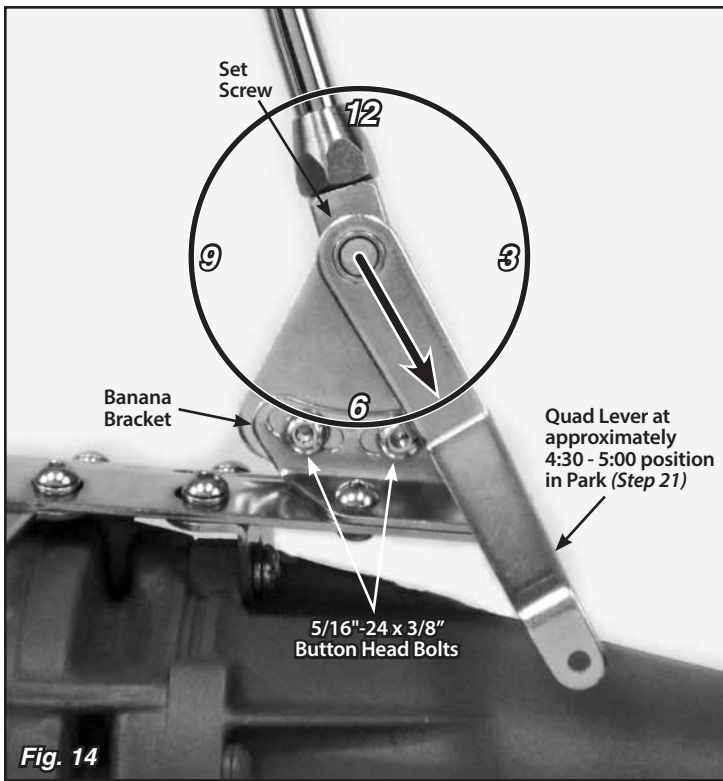

Fig. 14
**Step 20:** Make sure the two 5/16"-24 x 3/8" button head bolts that attach the left side banana bracket to the shifter assembly (in the curved, slotted holes) are tight. Before tightening the shifter assembly down to the main plate, move the shifter lever through all the gear positions. Make sure that the shifter lever and knob do not come in contact with the dash or the seat. The shifter assembly can be tilted forward or backward if needed by loosening the 5/16"-24 x 3/8" button head bolts in the curved, slotted holes in the left side banana bracket. **Fig. 14**
**Step 21:** Put the shifter lever into the Park position and check the position of the quad lever. It will need to be pointing to approximately the 4:30 - 5:00 position. If it is not, loosen the set screw in the top of the quad lever with a 1/8" Allen wrench and slide the quad lever off of the shaft. Reposition it on the shaft at approximately the 4:30 - 5:00 position, and retighten the set screw. **Fig. 14**
Double check to make sure that the bolts connecting the **left** side banana bracket to the shifter assembly are tight. **Fig. 14**